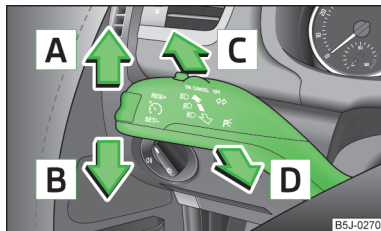

Fig. 42
- »** At the same time, pull the turn signal light stalk **»** Fig. 42 on page 61 towards the steering wheel, push it downwards, and hold it in this position.
- »** At the same time, pull the turn signal light stalk **»** Fig. 42 on page 61 towards the steering wheel, push it upwards, and hold it in this position.
Control stalk positions » Fig. 42.
- Pull the turn signal stalk » Fig. 42 on page 61 upwards or downwards - the side light on the right or left side of the vehicle is switched on.